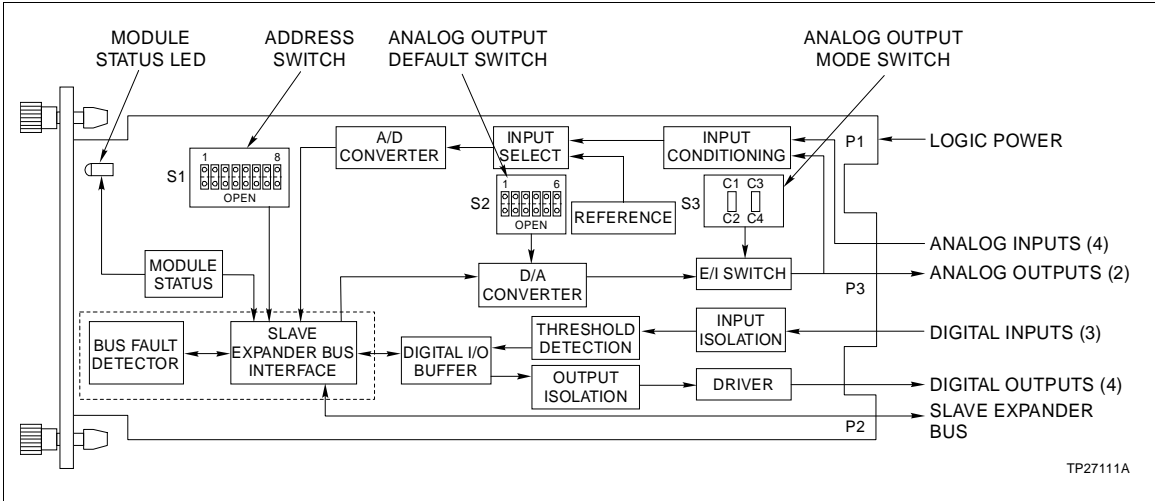

Figure 2-1. Quick Response Slave Module Block Diagram
The MFP communicates with its slave modules on a 12-line slave expander bus as shown in Figure 1-1. Each slave on the bus has a unique address set by its slave address dipswitch (S1). Figure 2-1 is a block diagram of the QRS.
Function Code (FC) 79 in the MFP configuration accesses the QRS on the slave expander bus. It also allows the MFP to automatically read input data or status data from the slave module, and write output data to it. This data is output by buffer circuits to the slave expander bus interface (see Figure 2-1). The slave address in FC 79 must be the same as the address set on the slave address dipswitch (S1).
Logic power (+5 VDC and ± 15 VDC) drives the QRS circuits. It connects through the top 12-pin card edge connector (P1) shown in Figure 2-1. P3 supplies +24 VDC to operate the analog output circuits.